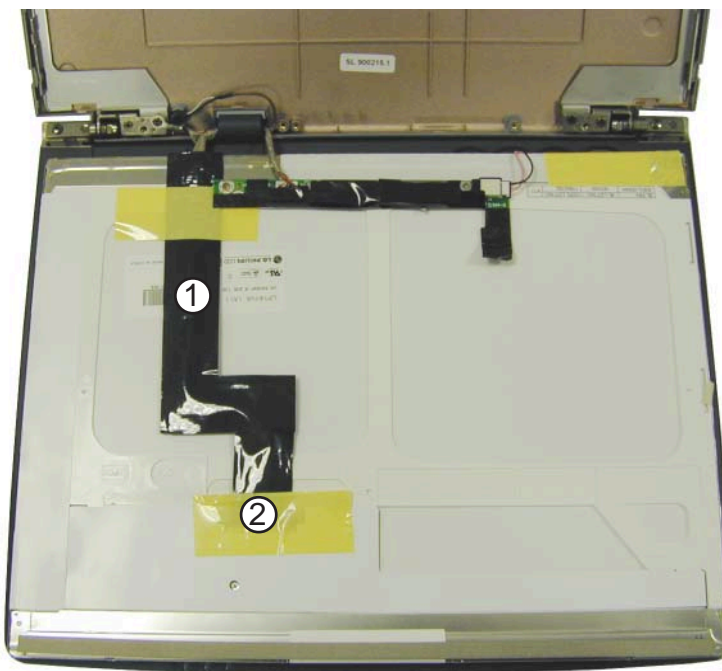

figure 2-27
- 2) Gently remove the LCD panel from the case and place it on top of the keyboard (figure 2-27).